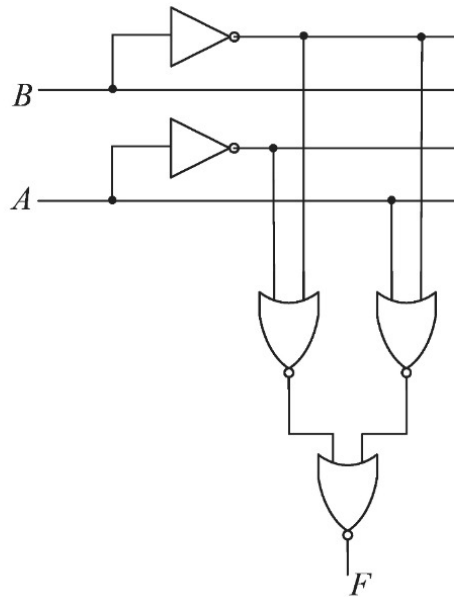

Fig. 3.18
34. The logic block shown in Fig. 3.18 has an output  $F$  given by \_\_\_\_\_. (GATE IN 2021)